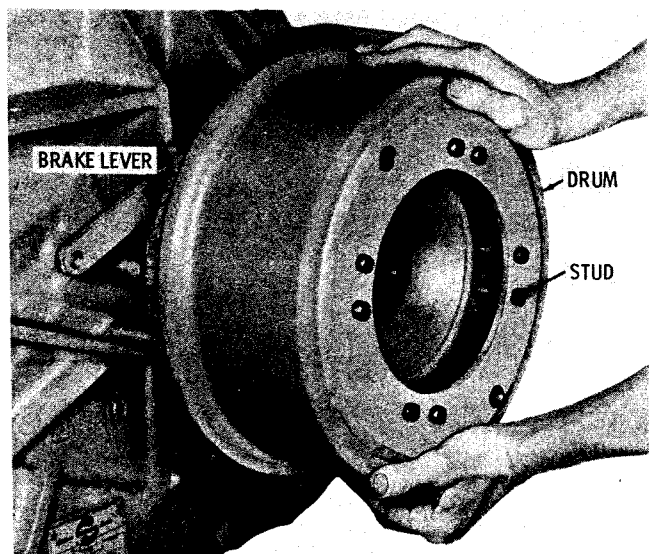

Fig. 7-114. Installing parking brake drum S1750
(33) Install the brake apply lever. Install the parking brake drum onto the output flange studs (fig. 7-114).